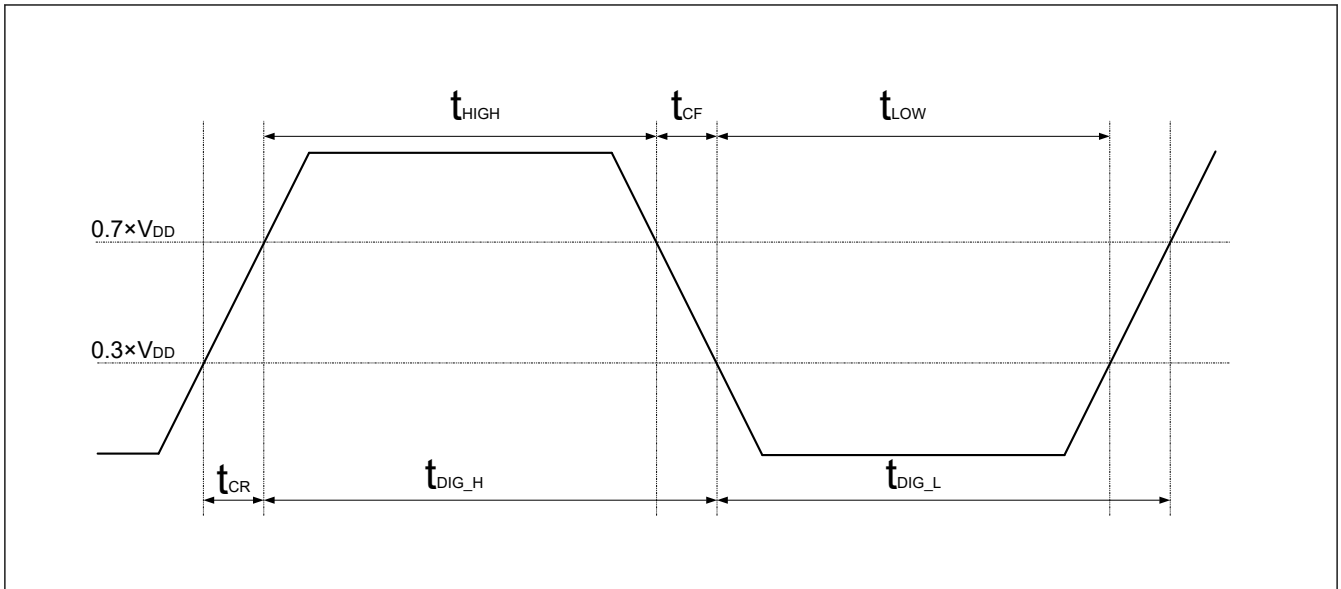

Figure 2.34  $t_{DIG\_H}$  and  $t_{DIG\_L}$
| SCL Clock Low Period                    | $t_{LOW}$              | Figure 2.34    | 80 (when PCLKD = 64 M)104 (when PCLKD = 48 M)  | —  | ns    | —     |
|   | $t_{DIG\_L}$           | Figure 2.34    | 88 (when PCLKD = 64 M)112 (when PCLKD = 48 M)  | —  | ns    | 2,4   |
| SCL Clock High Period                   | $t_{HIGH}$             | Figure 2.34    | 112 (when PCLKD = 64 M)148 (when PCLKD = 48 M) | —  | ns    | —     |
|   | $t_{DIG\_H}$           | Figure 2.34    | 120 (when PCLKD = 64 M)156 (when PCLKD = 48 M) | —  | ns    | 2     |
| SCL Clock Rise Time                     | $t_{CR}$               | Figure 2.34    | —  | $150 * 1 / f_{SCL}$ (capped at 60)                 | ns    | —     |
| SCL Clock Fall Time                     | $t_{CF}$               | Figure 2.34    | —  | $150 * 1 / f_{SCL}$ (capped at 60)                 | ns    | —     |
- $t_{DIG\_L}$  and  $t_{DIG\_H}$  are the clock Low and High periods as seen at the receiver end of the I3C Bus using VIL and VIH (see Figure 2.34)